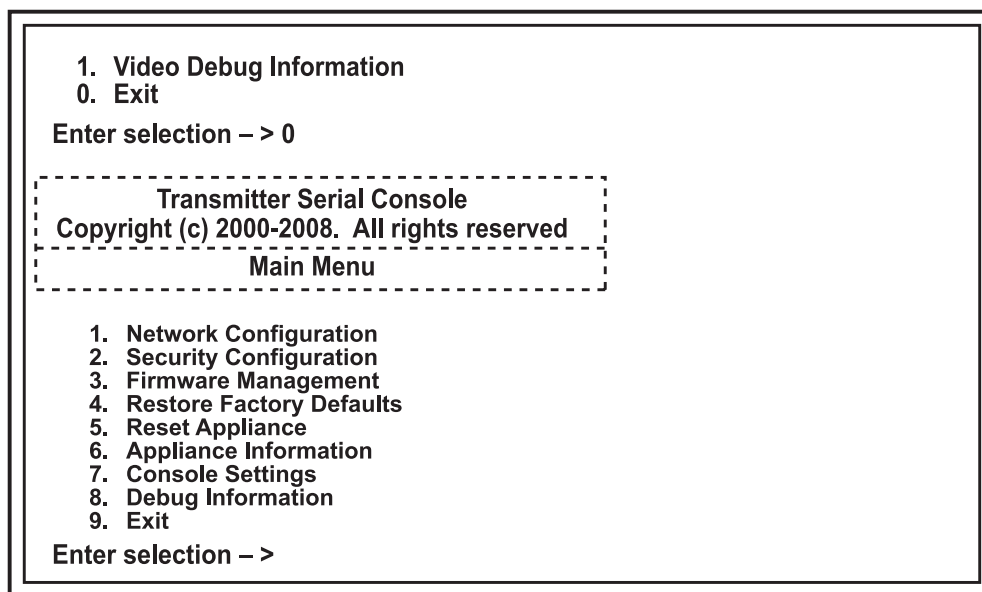

Figure 4-8. Transmitter Main Menu.
3. Type the password and press "Enter." The Transmitter Main Menu (Figure 4-8) will appear.